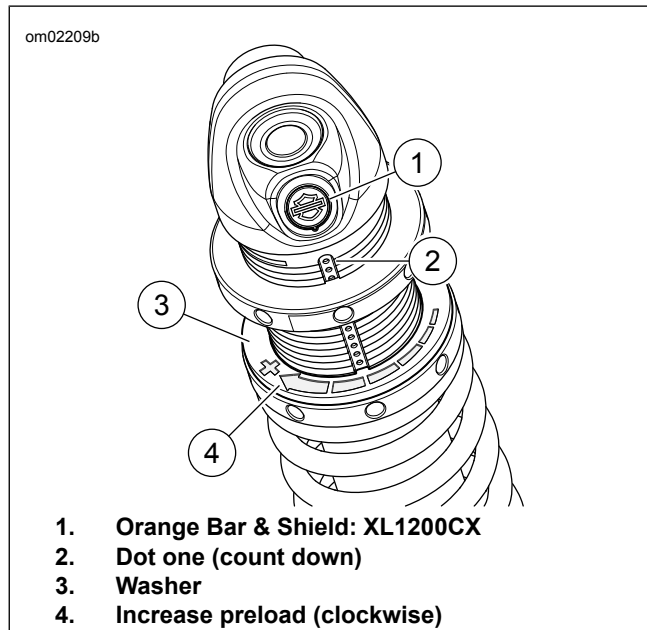

Figure 14. Preload Adjustment Arrow
- b. **XL1200CX:** See Figure 14. Identify the shock on the XL1200CX by the orange Harley-Davidson Bar & Shield (1) on the top of the shock.
See Figure 14. Rotate the lower adjustment ring clockwise (3) to increase preload. Rotate the lower adjustment ring counterclockwise to decrease preload.
See Figure 14. Count down from the top dot (2) on the shock dot scale to identify the recommended preload dot.
6. Rotate the upper locking ring to align with the recommended preload dot (3).
7. Cover one-half the recommended preload dot (4) with the upper locking ring.
8. Use the wrench to hand tighten the lower adjustment ring against the upper locking ring (5).